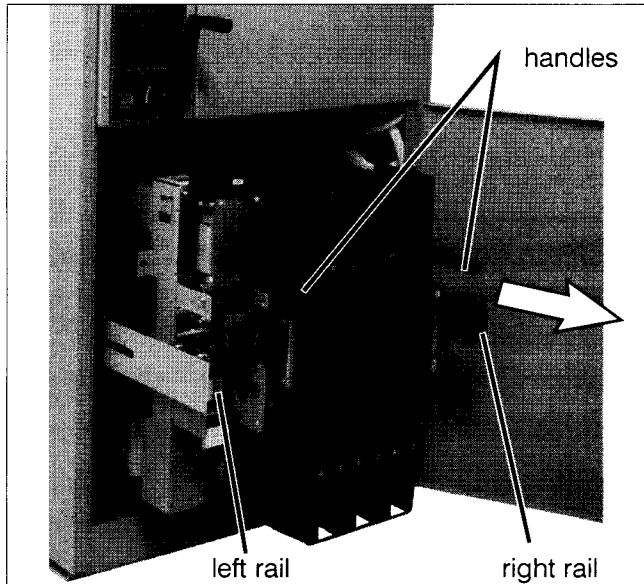

Figure 3-13. Transfer switch isolated and pulled out for inspection.
4. Open the lower enclosure door. Pull out both left and right side rails then use the two handles to roll out the transfer switch. It can be safely inspected in this position. The transfer switch can also be removed for easier maintenance operations. See Figure 3-13.